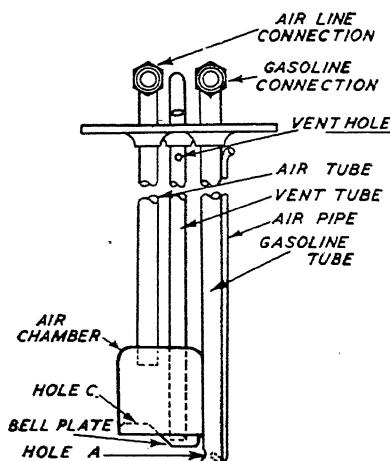

Fig. 22. Tank Unit
**Operation.** The tank unit is shown in Fig. 22. When the installation is operating properly, the air line, air tube, and air chamber above the level of the hole *C* are filled with air. The gasoline tries to rise to the same level in the tank unit as it is in the tank. It therefore exerts a pressure through the hole *C* on the air within the air chamber. This pressure is communicated through the air tube and air line to the head on the instrument board, where it is recorded by the rise of the red liquid in the glass tube.